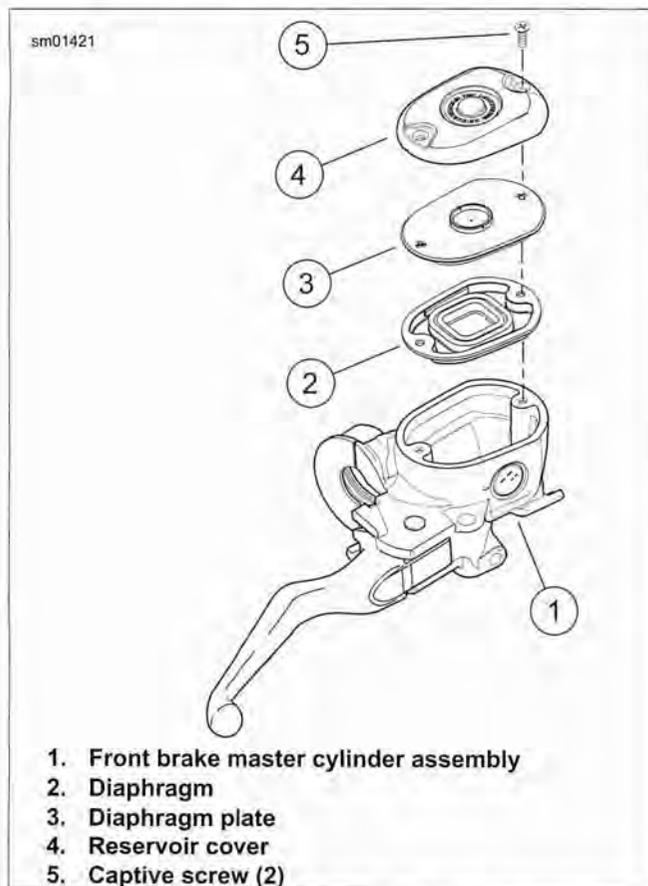

Figure 1-14. Front Brake Master Cylinder Cover Assembly (typical)
2. See Figure 1-14. Remove two screws (5), reservoir cover (4), diaphragm plate (3) and diaphragm (2) from master cylinder reservoir (1).
16. See Figure 1-14. Install diaphragm (2), diaphragm plate (3), reservoir cover (4) and screws (5) on front brake master cylinder reservoir. Tighten screws to 9-17 in-lbs (1.0-2.0 Nm).